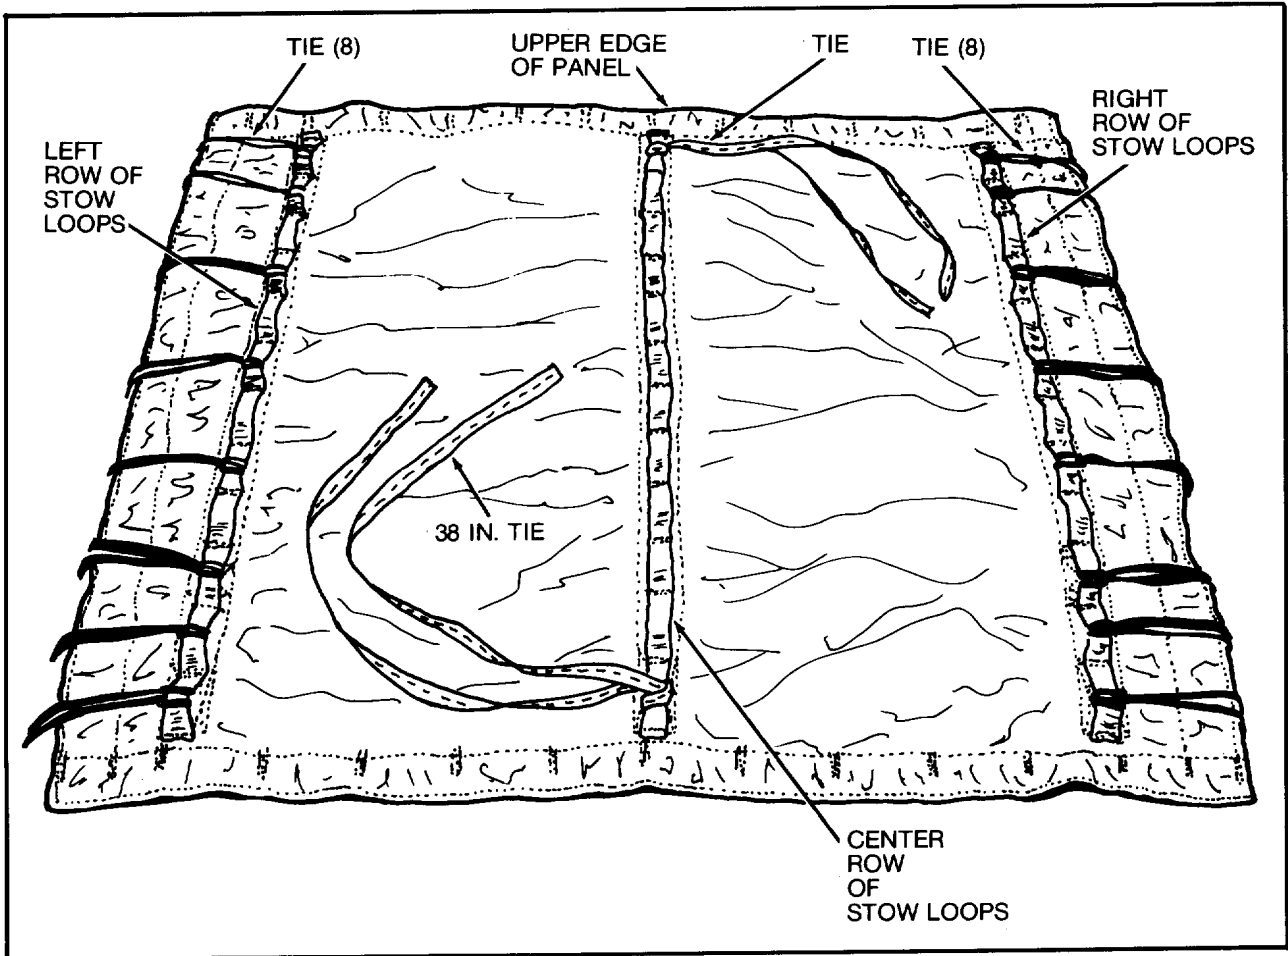

Figure 1. Bottom Panel Layout for Stowing 60-FT Six Loop Extraction Line.
- b. Cut seventeen 24-inch lengths of ¼-inch wide type I cotton webbing, fold in half and girth-hitch at even spacing 8 each of ties to left and 8 each to right row of stow loops of bottom panel. Girth-hitch remaining tie to center stow loop at upper edge of panel (figure 1).